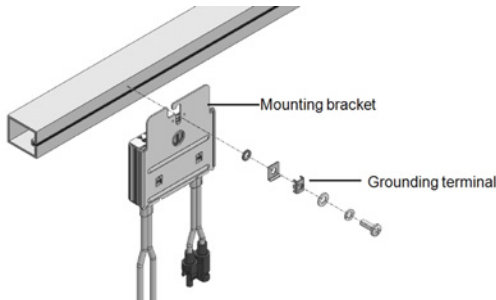

Figure 7: Power optimizer grounding terminal
- **For mounting on un-grounded structures** (such as a wooden structure): If the star washer or the plate cannot be used, use the SolarEdge grounding lug (purchased separately) with an equipment-grounding conductor according to the supplied instructions. The grounding terminal accepts a wire size of 6-14 AWG, and must be sized for equipment grounding per NEC 250.122 requirements. Tighten the screws connecting the power optimizer to the frame and the grounding terminal screw. Apply torque of 9.5 N*m / 7 lb*ft. See Figure 7